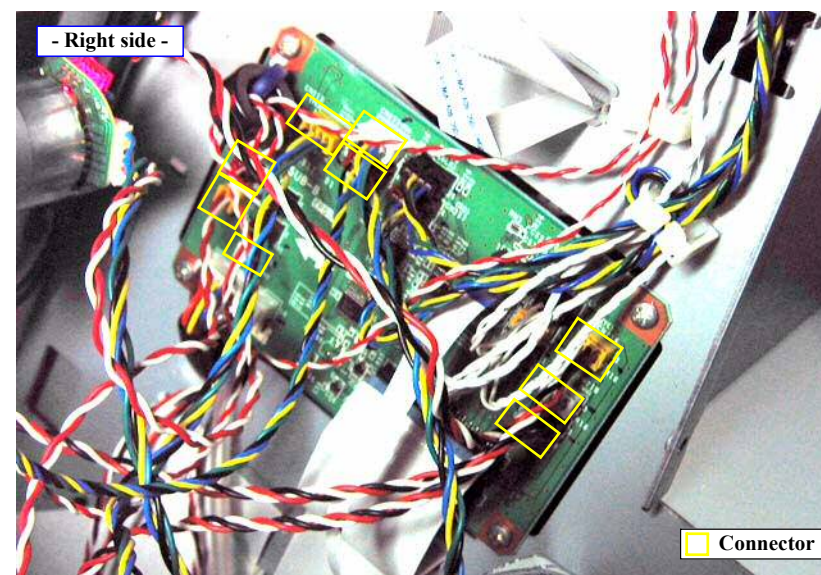

Figure 4-108. Disconnecting the connectors
8. Disconnect the connectors (CN213, CN214, CN216, CN217, CN218, CN221, CN222, CN223, CN224) on the Sub Board Assy; B shown in **Figure 4-108**. (See **Figure 4-54** for the connector locations.)